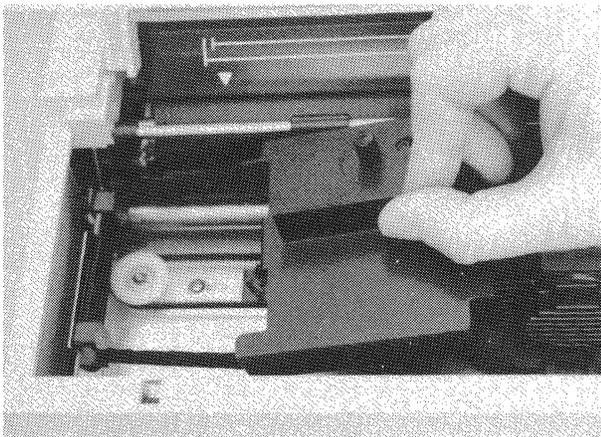

Figure 2-3A Looping the Ribbon onto the Left Ribbon Guides
The following procedure allows the operator to install (or change) the ribbon without soiling the hands. However, using the pencil (Figure 2-3C) may be omitted if desired. Refer to Figures 2-3A, B, C, D.
2. Holding the ribbon cassette by the ridge as shown in Figure 2-3A, loop the ribbon onto the two left ribbon guides.